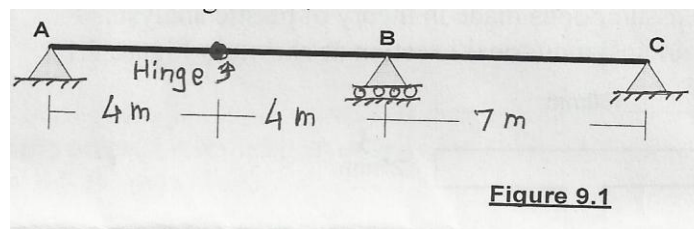

Figure 9.1
Q. No. 9: a) Draw ILD for the reaction at A, B and C. Also draw ILD for shear force at midpoint of ABC for the beam shown in Figure 9.1. (8)